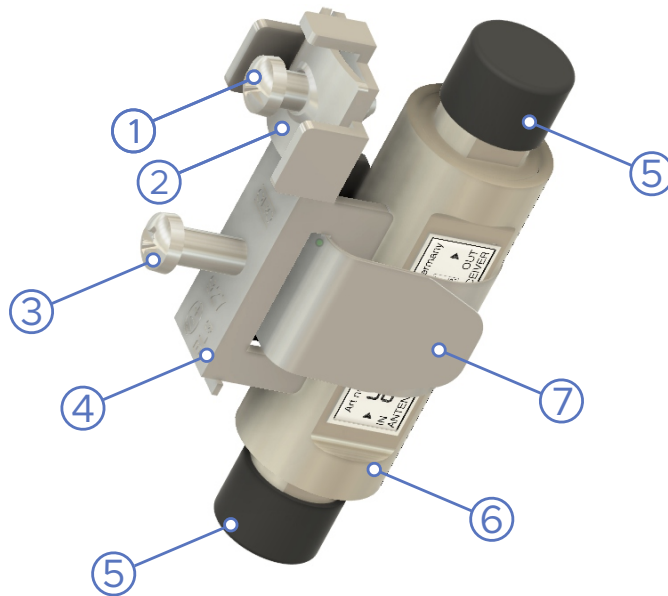

Figure 7.2: INA Components
1. Release the screw (3) if necessary.
2. Feed the clamp strap (7) through the slot in the clamp unit (4) and pull it far enough through the slot that there is enough space to insert the INA.
3. Feed the INA (6) through the arched clamp strap (7) and place it in the middle of the clamp unit.
4. Pull the clamp strap so that it securely holds the INA (see Fig. 7.2).
5. Secure the INA by tightening the screw (3).